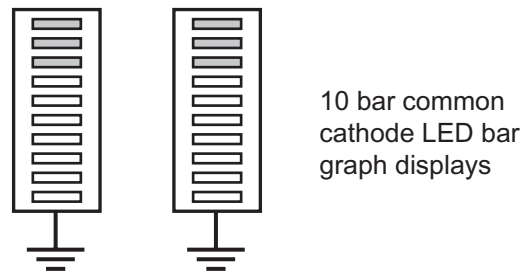

Fig. 2(d)
- Design a circuit based on bar graph display drivers that will operate the bar graph displays shown in Fig. 2(d) for both the left and right forks using the output from the respective differential amplifiers. [4]
- Design a circuit that will switch on a buzzer if either of the bar graph displays shown in Fig. 2(d) in the forklift cab unit indicate maximum overloading on the respective fork (i.e. when the 10th segment of either display is illuminated). The buzzer should turn on and off at 0.25 second intervals until the load on the appropriate fork is reduced or rebalanced. (The loading on each fork must be checked at least 2 times per second.) [6]